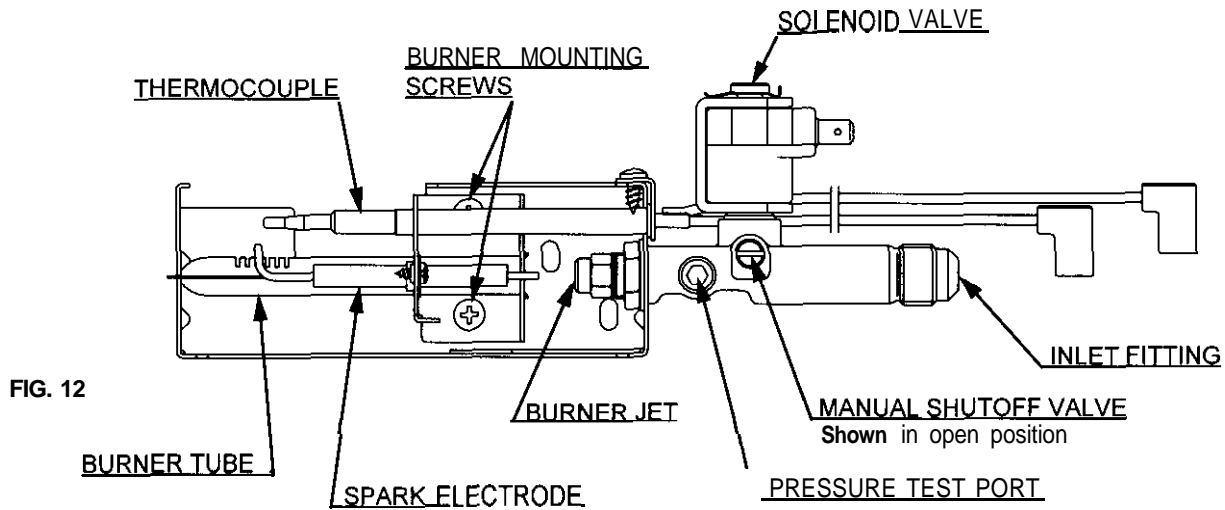

FIG. 12
The correct operating pressure is 11 inches of water column. The correct place to take the LP gas pressure is at the test port just ahead of the burner jet. (See FIG. 12).
6. Remove the burner mounting screws and remove the burner assembly. (See FIG. 12).